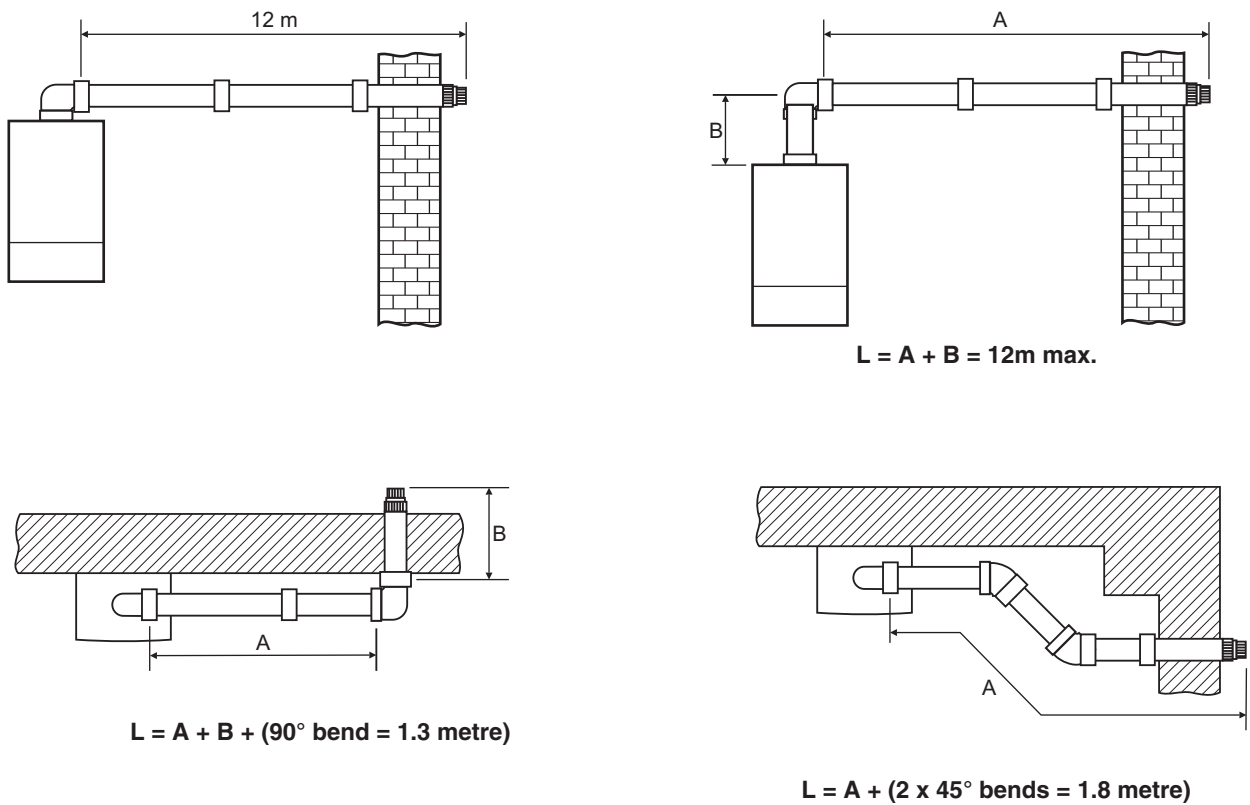

Fig. 4.1
4.3 FLUE SYSTEM - Figs. 4.1, 4.2